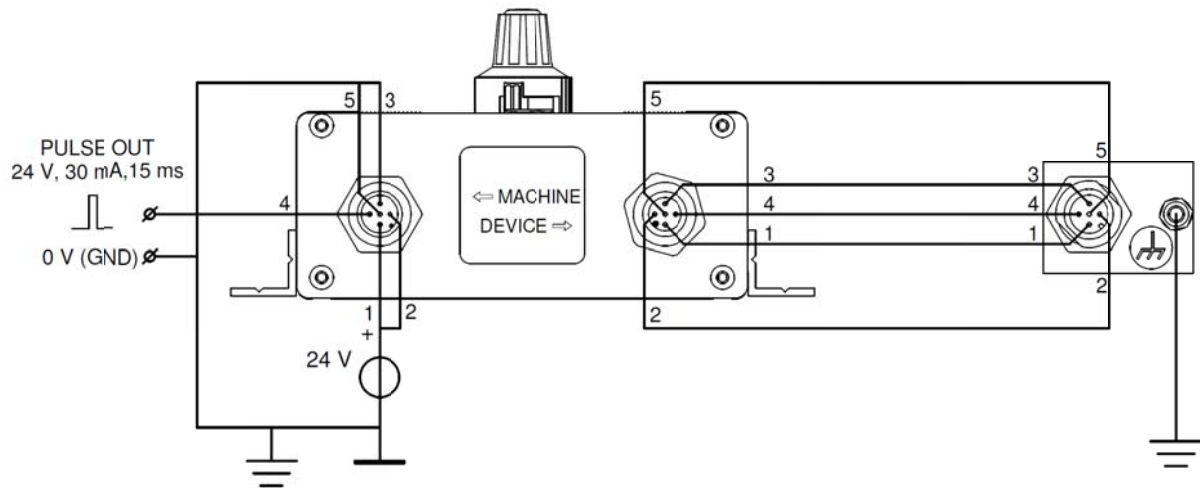

Fig. 3, External Control Unit - Perfomaster connections.
- See fig. 3 and Table 1 for the connections of the Control Unit and the Perfomaster.